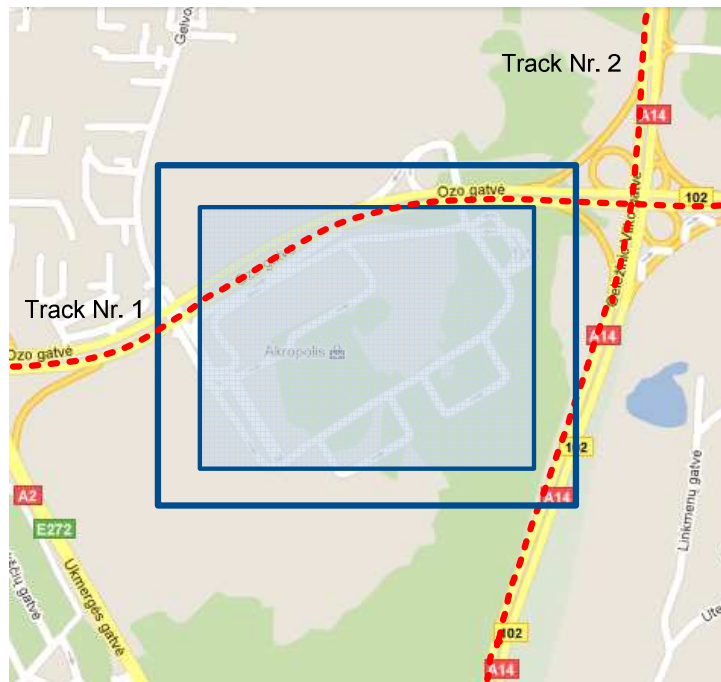

Figure 26 Geofence border
- Frame border – frame border is an additional border around Geofence zone. It is additional area around defined zone used to prevent false event recording when object stops on the border of the area and because of GPS errors some records are made inside area and some – outside. Event is generated only when both borders are crossed. See figure 26 for details: track 1 is considered to enter the area while track 2 does not.